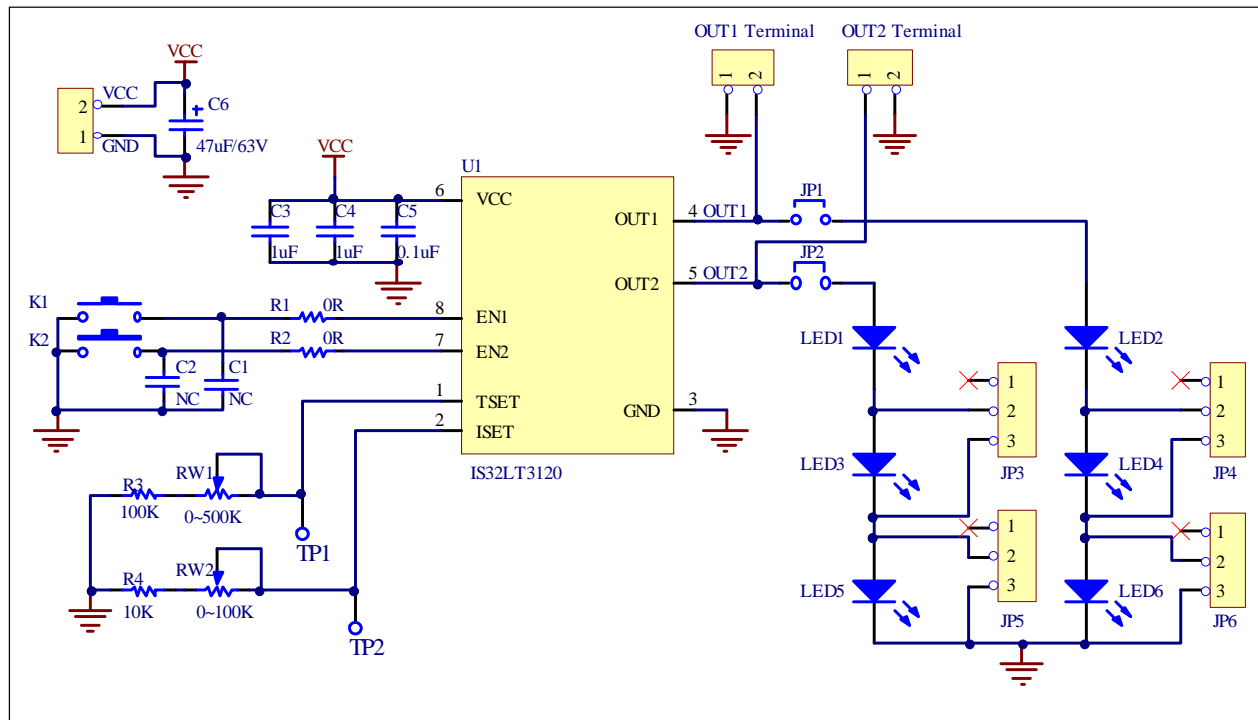

Figure 2: IS32LT3120 Application Schematic
- 2) The fade time of both channels is adjusted by the variable resistor (RW1). Turn RW1 counter clockwise to decrease fade time, and clockwise to increase fade time. Once the desired fade time is set, measure the resistor value across TP1 and GND. Use this measured resistor value to replace the variable resistor RW1 and R3 (see schematic Figure 2).
- 3) The output current of both channels (OUT1 and OUT2) is adjusted by the variable resistor (RW2). Turn RW2 counter clockwise to decrease the output current of both channels, and clockwise to increase the output current of both channels. The test point TP2 can be used to detect the resistor value at the ISET pin. The final resistance can be measured with an ohm meter across TP2 and GND pins. Use this measured resistor value to replace the variable resistor RW2 and R4 (see schematic Figure 2).
Bill of materials, refer to Figure 2 above.